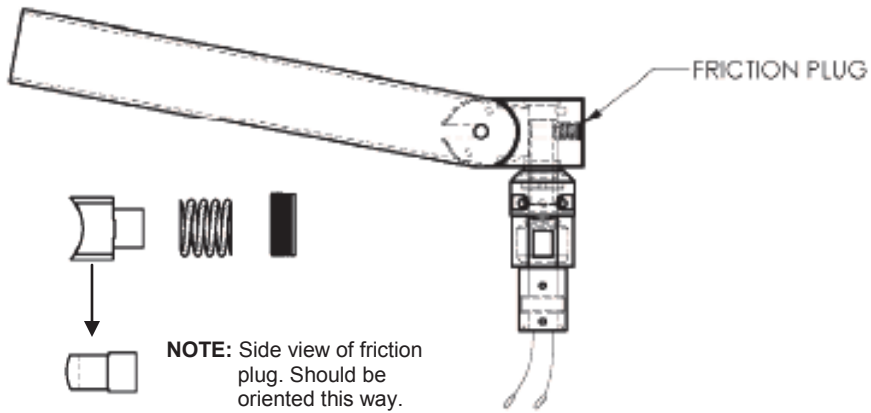

Figure 8 – Orienting the Friction Plug
2.2.8 Insert the brass friction plug into the hole. **Make sure the friction plug is oriented properly to capture the shaft by riding down into the shaft groove** (Figure 8, next page).
2.2.9 Insert the compression spring and threaded plug behind the brass friction plug (Figure 8).